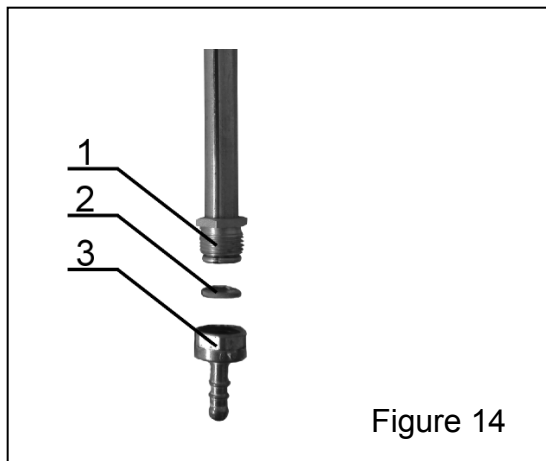

Figure 14
1. To the gas outlet on the cooker (Figure 14, pos.1) connect the gas connector (Figure 14, pos.3) with seal (Figure 14, pos.2).
2. Connect prescribed rubber hose to the LPG connector (pos. 3).